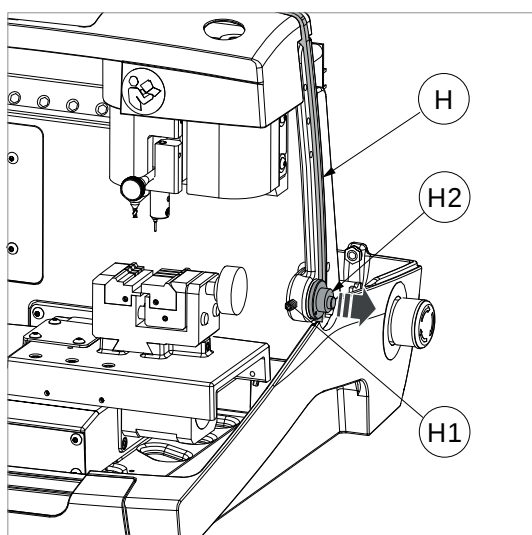

Fig. 85
- 5) Remove the top cover (E).
- 6) Remove the protective shield (C). Take care not to lose the 4 curved spring washers (T).
- 7) Loosen the grub screw (H1) and move the pawl (H2) outwards (Fig. 85) so that part of the gasket (H) can slide out (H).
- 8) Loosen the 2 screws (K1) and move the belt cover (K).